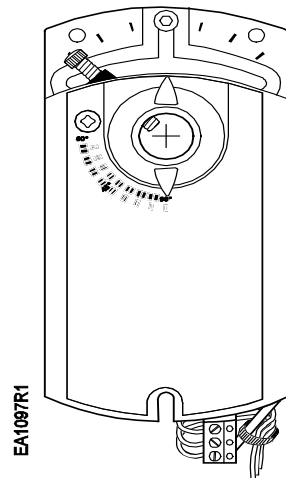

Figure 26.
2. Secure the wires to the actuator bracket with a cable tie as shown in Figure 26.